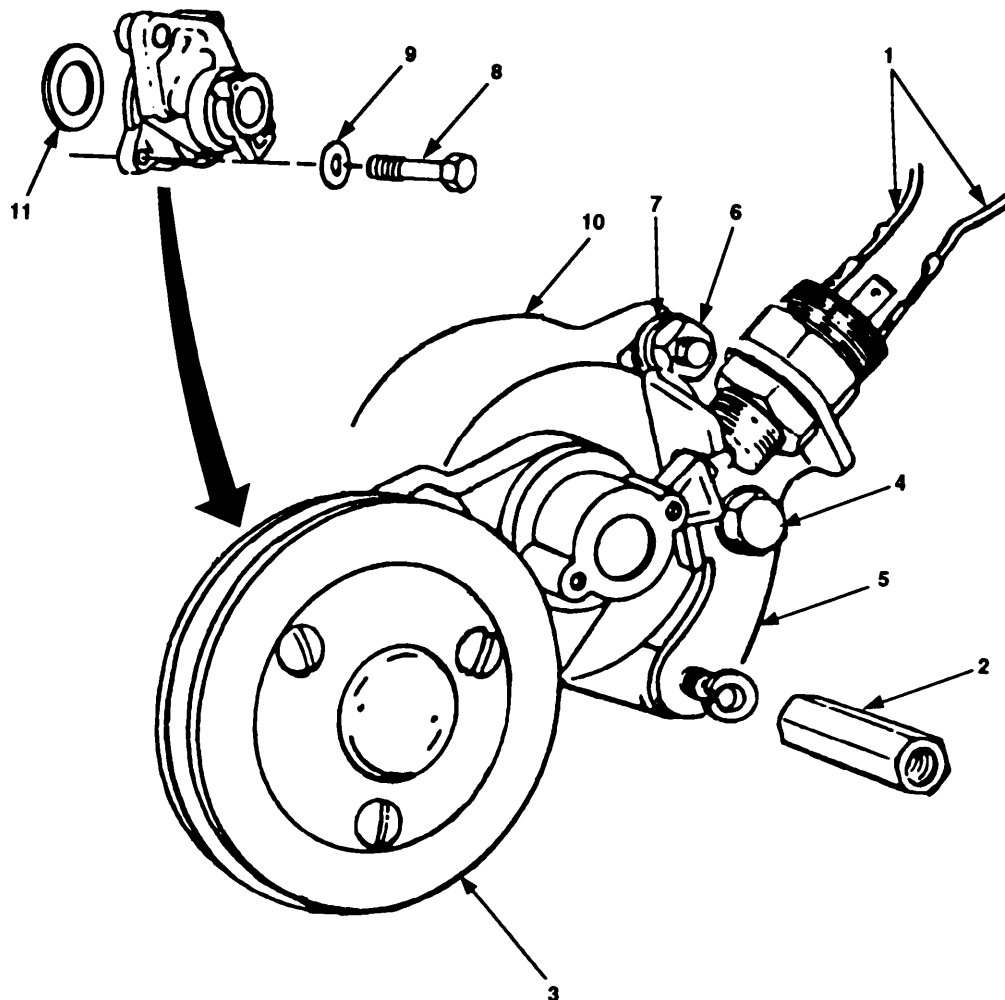

Figure 4-34. Idler Pulley Assembly Maintenance.
- a. Tag and disconnect V-belt contact switch wires (figure 4-34, 1).
- b. Remove spacer (2).
- c. Hold pulley (3) and remove bolt (4) and contact switch bracket (5).
- d. Remove nut (6), washer (7), bolt (8), washer (9) and idler pulley assembly (10).
- e. Remove and discard preformed packing (11).
- a. Install new preformed packing (11).
- b. Position idler pulley assembly (10) in place on engine and install washer (9), bolt (8), washer (7), and nut (6).
- c. Raise pulley (3) and install contact switch bracket (5) with bolt (4).
- d. Install spacer (2).
- e. Connect V-belt contact switch wires (1).